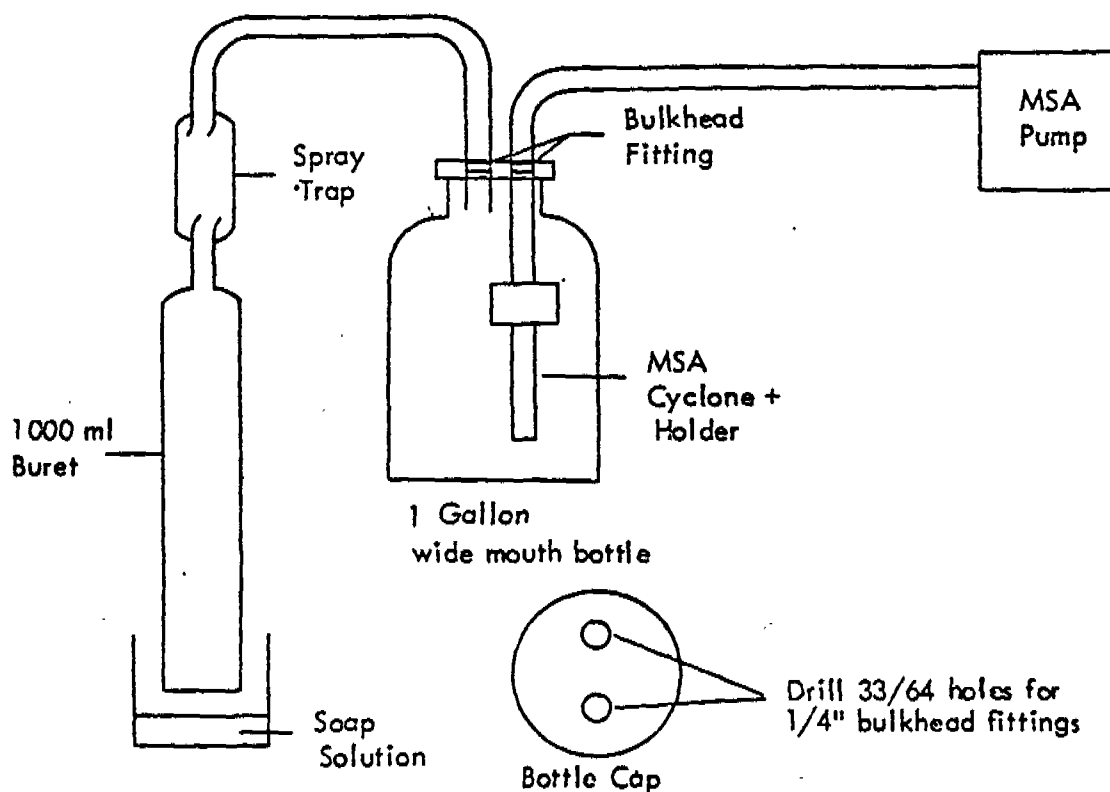

Figure 1
- a) Assemble the apparatus as shown in Figure 1. Tape the cap on the gallon bottle with vinyl electrical tape to insure a tight seal.